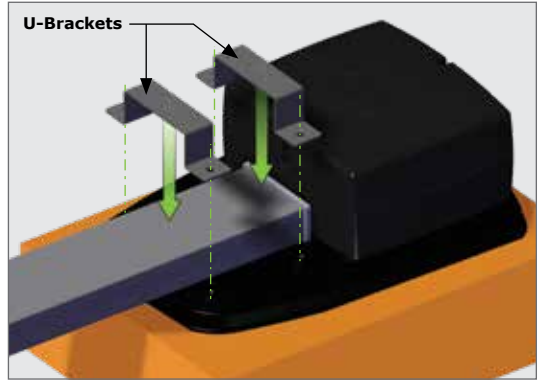

FIGURE 10
4. Place the two U-Brackets into position over the four holes found on the head unit (Figure 10).